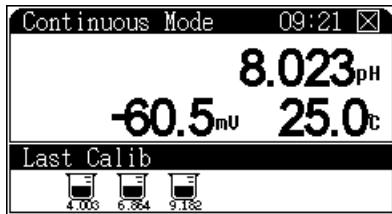

Figure 26 Enter Continuous Mode
- 4 Press [**Measure**] to begin measurement. Figure 26. The upper area of the screen shows the current measuring mode and system time. The central area of the screen shows present pH, potential, and temperature.